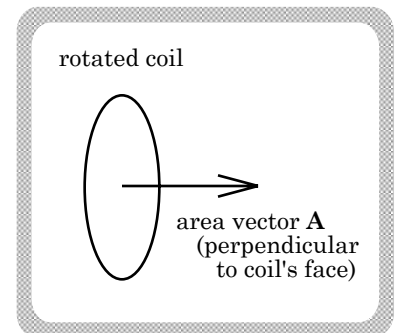

FIGURE 17.4
i.) Define a vector \mathbf{A} whose *magnitude* is the area of the coil's face and whose *direction* is perpendicularly out from the face (see Figure 17.4). With \mathbf{A} so defined (note: this variable is sometimes denoted as \mathbf{S} , standing for *surface area*--we will use both notations), the magnetic flux through the coil's face is: